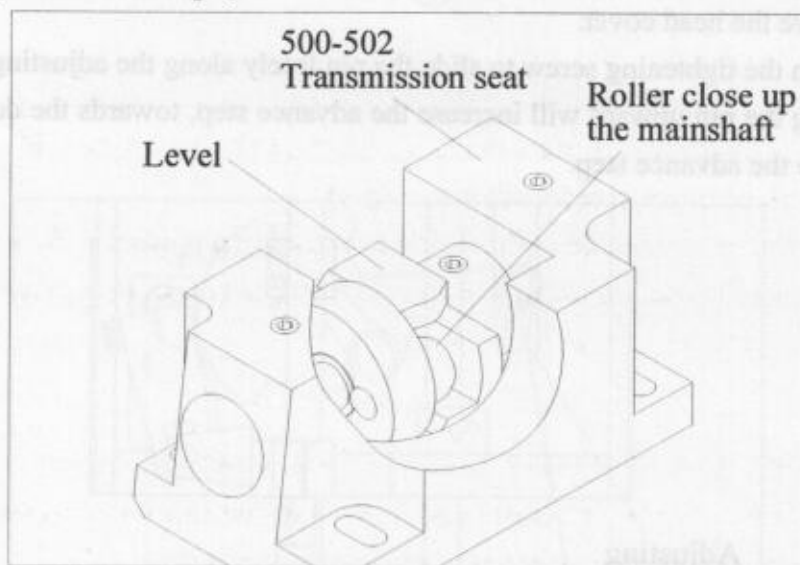
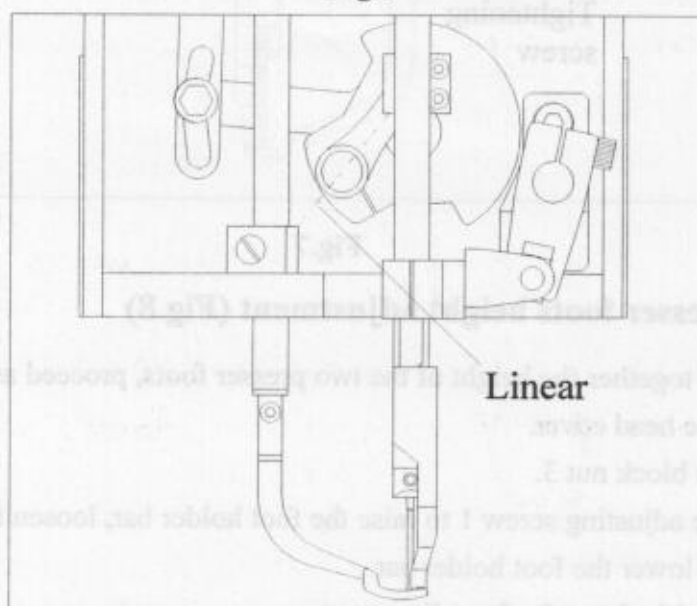

Fig.5
Fig.6
4.3 The Rapid-Slow transmission device of the shuttle adjustment (Fig.5 , Fig.6)
- Turn the handwheel till when the needle driving crank is in the position as shown in Fig.6.
- In this position, the plate of the driving block of the Rapid-Slow transmission device is on the level, and the roller in the driving block is close up the main shaft.(as shown in Fig.5)
- Turn the handwheel till when the plate of the driving block of the Rapid-Slow transmission device is on the level and the roller in the driving block is close up the main shaft. (as shown in Fig.5)